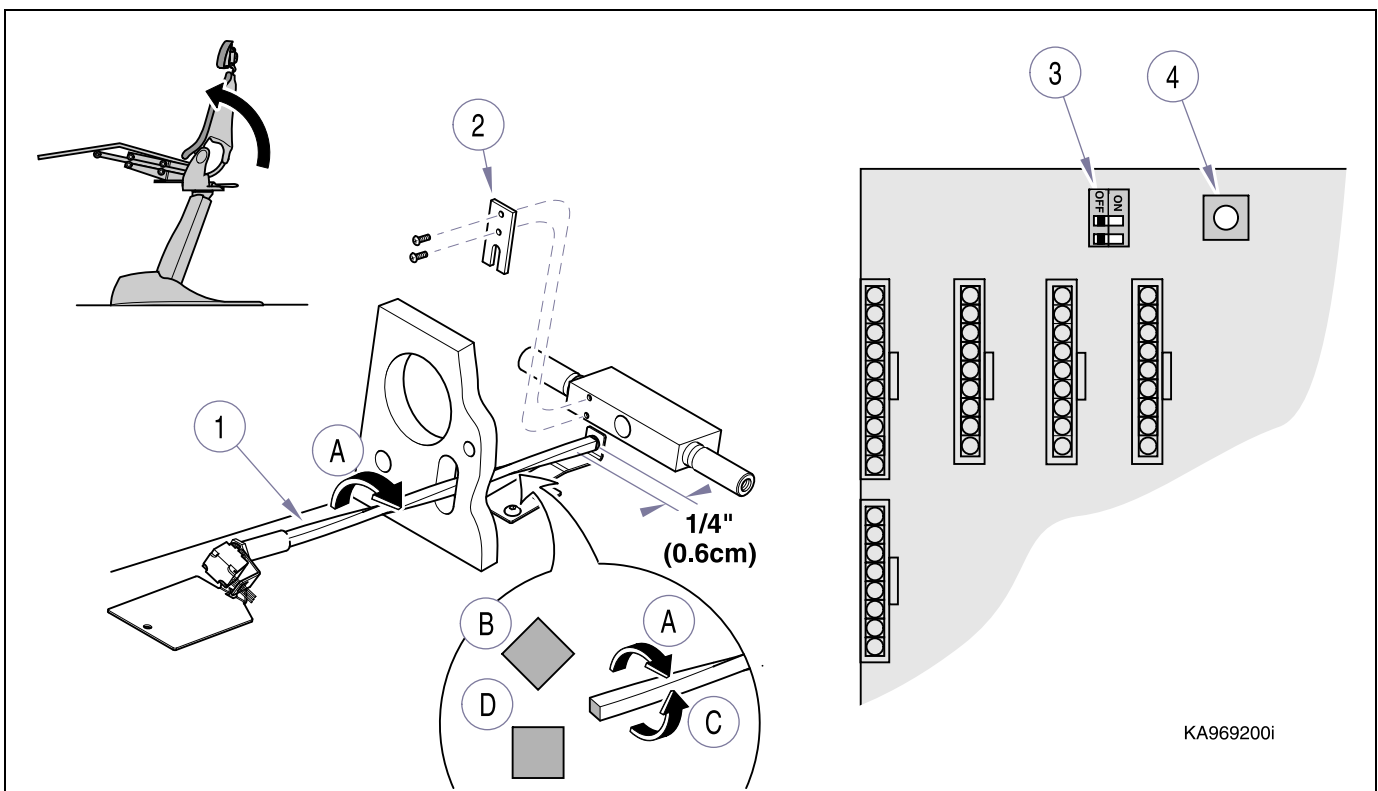

Figure 4-22. Back Potentiometer.
- (1) Plug chair power cord into outlet.
- (2) While holding down Program button on membrane or foot switch, press Back Up directional button, raising back to full up position.
- (3) Rotate sensor shaft (1, Fig. 4-22) Fully Clock-wise (A) until it stops, then continue to turn it until the corner (B) of the shaft is facing upward.
- (4) Turn sensor shaft (1) counter-clockwise (C) to the first flat surface (D) and install sensor dog (2), two screws.
- (5) Place SW1 switches (3) both in ON position.